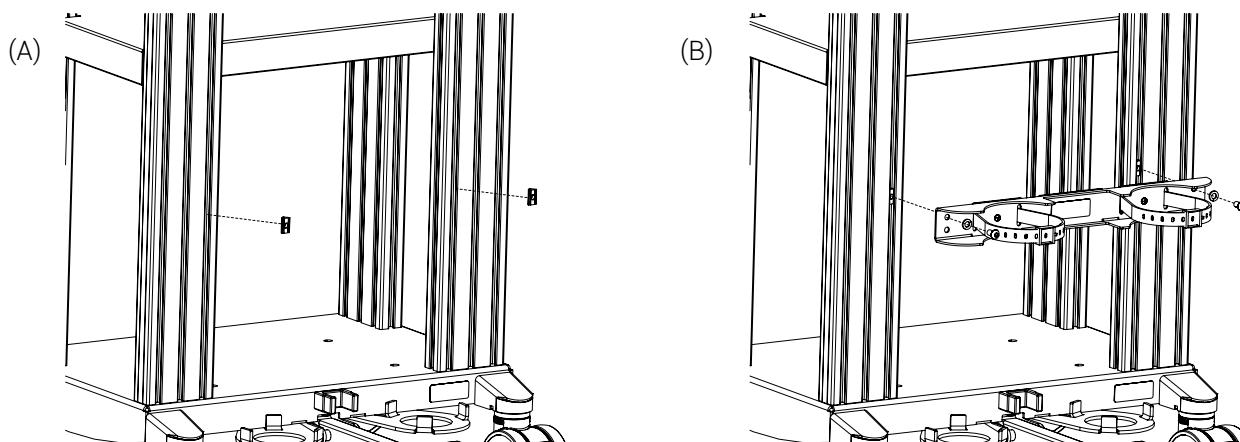

Figure 14: Installation of the top plate of the gas cylinder mounting bracket
4. Insert two (2) sliding T nuts in each vertical rail (Figure 14 A).
5. Align the screw holes of the top plate of the mounting bracket and the sliding T nuts, then only partially tighten the four (4) button head hex socket screws 5/16-18 X 5/8 in. and four (4) lock washers, using an Allen key 3/16 in. (Figure 14 B)